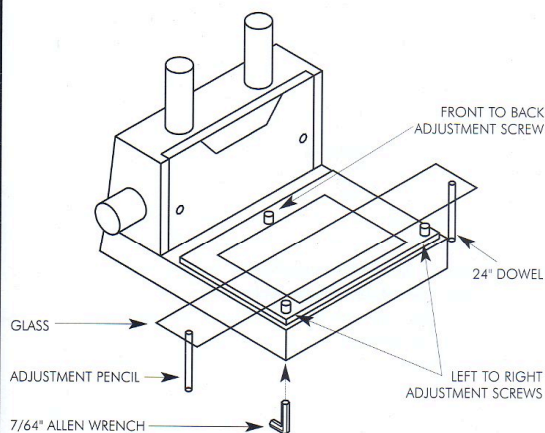

Figure 3
#### Aligning the Negative Stage (See Figure 3.)
- 1 In aligning the lens stage it is helpful to have your assistant on hand again. First raise the chassis up the column to just above 26" on the column scale, lock in place, and extend the bellows about four inches. Place a lens board, with firmly mounted lens, into the enlarger. Next place the sheet of glass flush to the lens flange (the flange extends beyond the front element, so you don't have to worry about contact with the element). The glass should extend from front to back first—the opposite of the negative stage procedure (in figure 3). Take one of the dowels and place it directly under the optical axis, and using the bellows adjustment, bring the glass down until snug with the top of the dowel. With the second dowel, check opposite ends of the glass for level of height and make your adjustment with the adjustment screw at the front of the lens stage. This screw is accessed through the small hole at the front center of the mounted lens board.